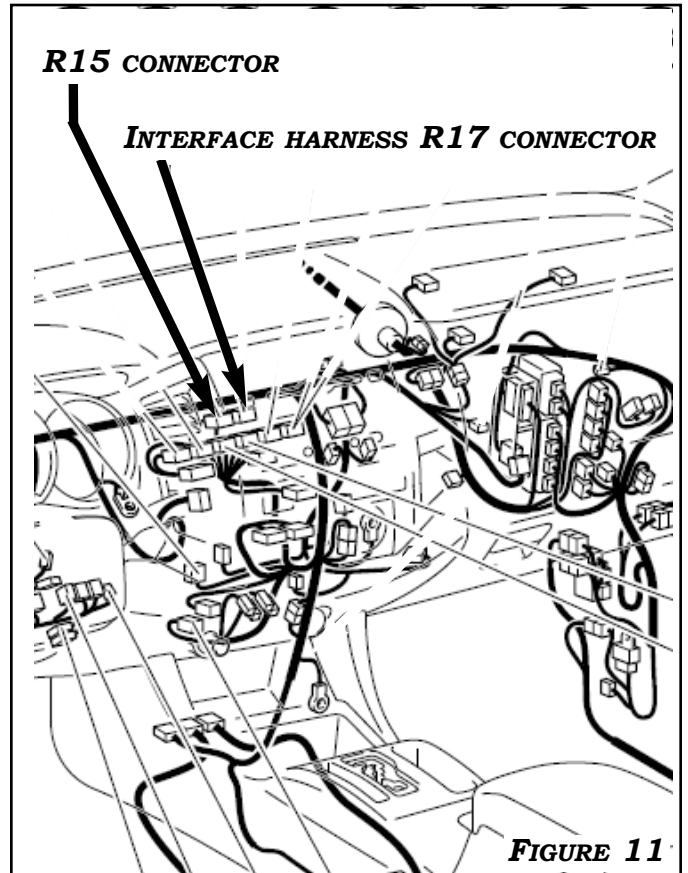
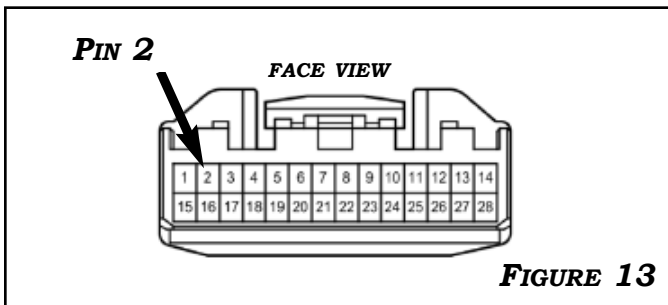
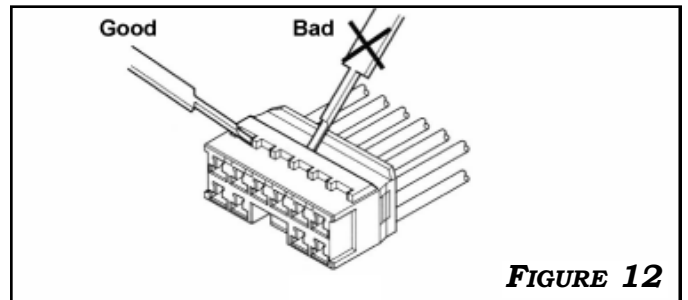

FIGURE 11
FIGURE 13
FIGURE 12
2. LOCATE REMOVED WHITE CONNECTOR **R15** FROM THE RADIO RECEIVER THAT CONNECTS BESIDE THE INTERFACE ADAPTER HARNESS CONNECTION. **FIGURE 11**. **BE SURE TO PULL OUT TERMINAL RETAINER AT THE CENTER OF CONNECTOR. FIGURE 12**. INSERT TERMINAL FROM INTERFACE ADAPTER HARNESS INTO PIN 2 OF CONNECTOR **R15**. **FIGURES 13 & 14**